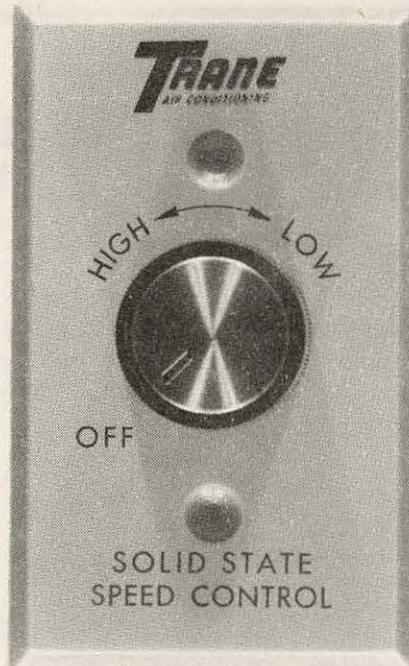

FIGURE 15 - Solid State Speed Control
3. Mount face plate with screws provided and attach control knob. See Figure 15.